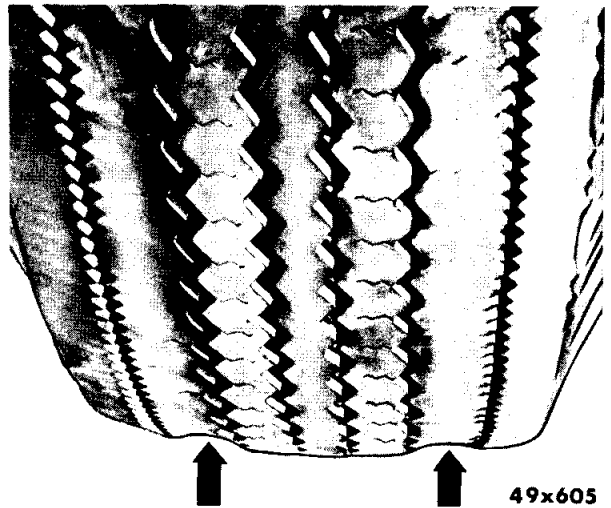

Fig. 31—Under-Inflation Wear
- d. Refer to the Tire Pressures Chart in the Wheels and Tires section. Tires are subject to under-inflation wear, as shown in Figure 31. This type of wear is characterized by excessive wear on the two tread ribs adjacent to the inner and outer shoulder ribs. When a condition of this kind develops, it is an indication that the tire has been run at a lower operating pressure than that for which it is designed. Over-inflation of the tire will result in excessive wear at the center of the tread.